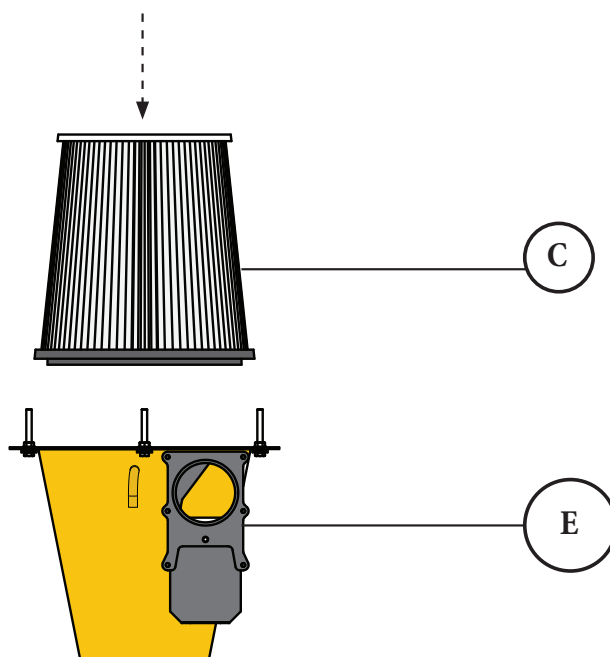

FIG. 10
Place the Filter (C) on top of the Cyclone (E) with the open side facing down [FIG. 10].
*Note: Position the Filter (C) on the Cyclone (E) so that it is centered between all four Hex Head Bolts (H8).*